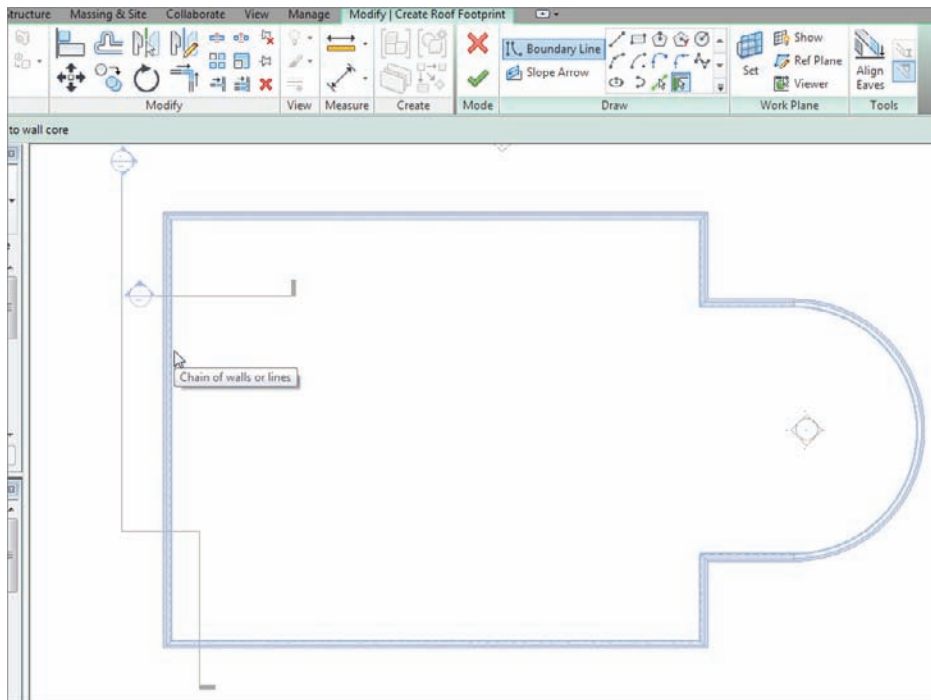

FIGURE 7.3 Adding a sketch line to the perimeter of the building by picking walls
6. On the Modify | Create Roof Footprint tab, be sure the Pick Walls button on the Draw panel is selected, as shown at the right of Figure 7.3.
10. Hover your pointer over the leftmost vertical wall. Notice that it becomes highlighted. When you see the wall highlight, press the Tab key on your keyboard. Notice that all the perimeter walls highlight. When they do, pick (left-click) anywhere along the wall. This places a magenta sketch line at the perimeter of the building (see Figure 7.3).